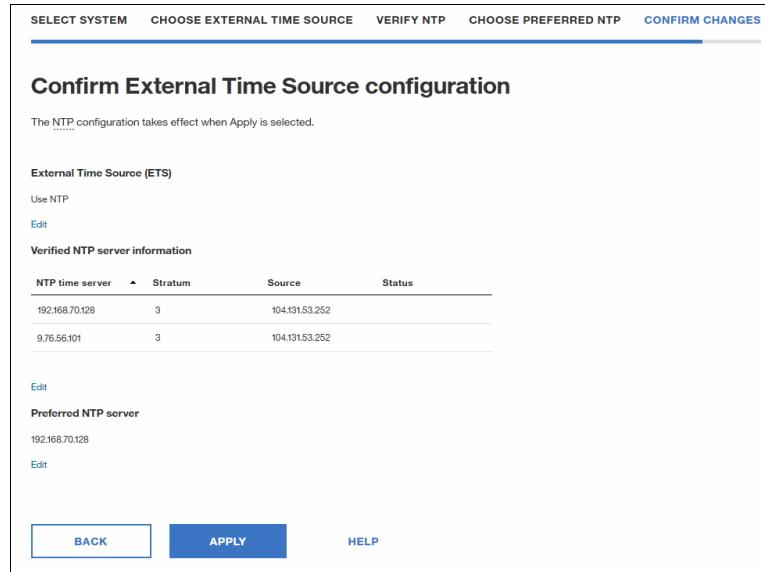

Figure 8-50 Confirm External Time Source configuration
6. The **Confirm External Time Source configuration** window opens. Verify and click **APPLY** to complete the definition (Figure 8-50).